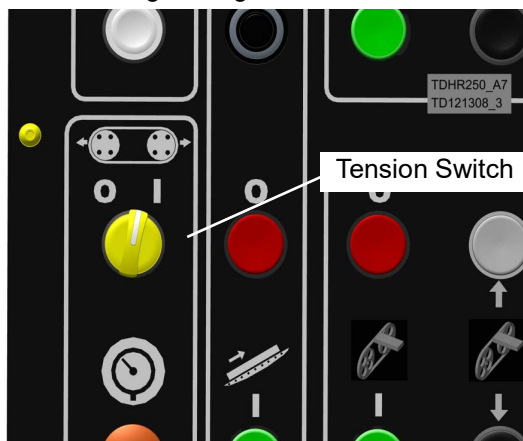

FIG. 3-14
6. Turn sawblade tension switch on control panel, to Right "I" position for tightening sawblade. See FIG. 3-14